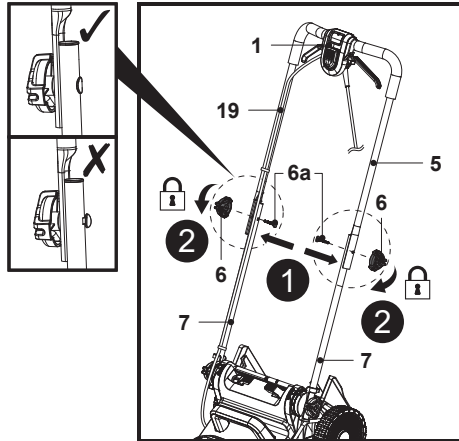

Fig. 3
1. Hold the upper handle bar (5) with the safety switch button (1) facing upwards.
2. Align the mounting holes of the upper handle bar (5) and the lower handle bars (7).
3. Pass the mounting bolt (6a) through the mounting holes to the end (Fig. 3, step 1).
4. Secure the upper handle bar (5) with the lower handle bar (7) by turning the locking knob (6) clockwise on the thread of the mounting bolt (6a) for tightening (Fig. 3, step 2).
5. Make sure that the control cord (19) runs on the upper side of the upper handle bar (5) and the lower handle bar (7).